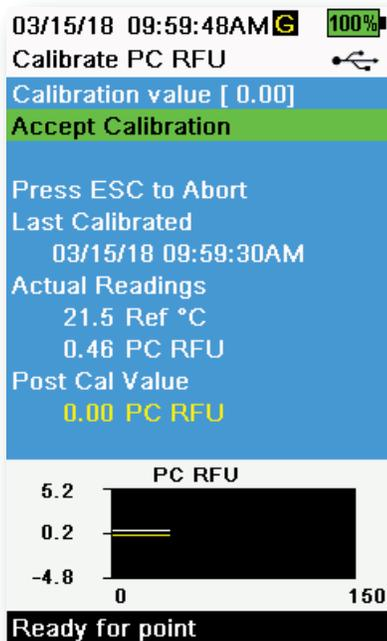

Figure 58 Calibrate PC RFU
10. Observe the temperature reading on the calibration display (Figure 58). Use the table in the Rhodamine WT dye solution preparation section on page 46 to identify the appropriate value for the calibration standard.